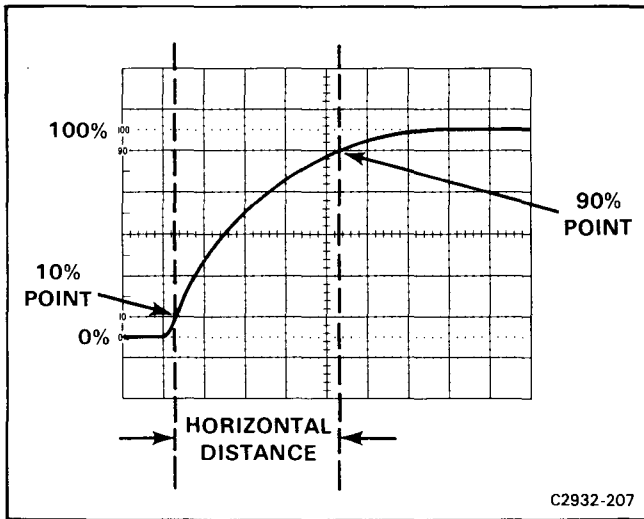

Figure 2-11. Measuring risetime.
4. Set the time-base triggering controls to obtain a stable display. Set the Time/Div switch to the fastest sweep rate that will display less than eight divisions between the 10% and 90% points on the waveform (see Fig. 2-11).